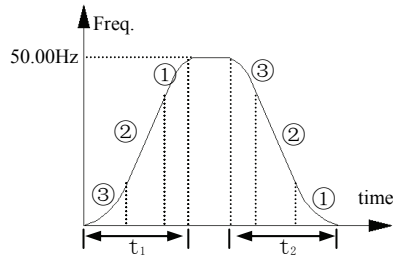

Fig. 7-2 S curve acc/dece
**1: S curve acc/dece mode.** Output frequency raise or decline as the S curve: as fig.7-2.
S curve starts interval time as fig.7-2③, output frequency changed slope increase slowly from zero.
S curve up interval time as fig.7-2②, output frequency changed slope is constant.
S curve ends interval time as fig.7-2①, output frequency changed slope decrease slowly to zero.